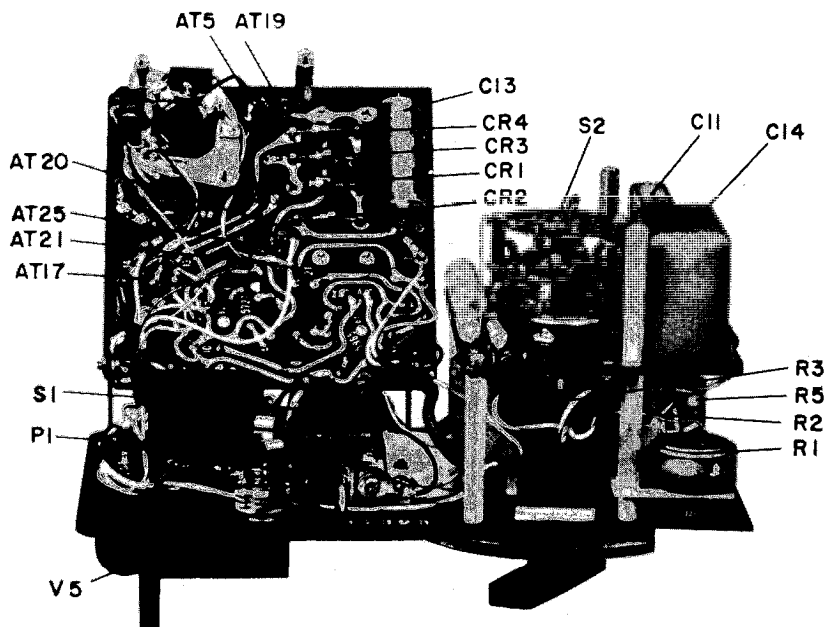

Figure 4-1. Side internal view of Type 1531 stroboscope with etched board swung open.
To remove the instrument from the case, open the case and place the instrument with the panel in a vertical position. Make certain to unplug the power connector before starting the next step. Remove the four screws from the side of the case opposite the panel and pull the instrument forward. For access to the parts located on the panel, remove the screw directly under the INPUT jack, and pivot the etched board containing the power transformer away from the panel (see Figure 4-1). Avoid damage to parts, do not allow the etched board to swing free.
If the stroboscope continually blows fuses (see Figures 4-1, 4-2, and 4-7):
If the indicator under the RPM dial is not illuminated, but the strobotron lamp fires, pilot lamp (P1, Figure 4-1) is defective. To replace, swing back the etched board (refer to paragraph 4.4.6) and unclip the lamp socket from its bracket. The lamp can now be easily replaced.
b. If the strobotron lamp flashes at the same rate, regardless of the RPM dial setting on all three speed ranges, potentiometer R3 (see Figure 4-1) is probably open-circuited.
If the stroboscope flashes, but the CAL indicator lamp remains out when the HIGH CAL and LOW CAL settings are adjusted (see Figures 4-1 and 4-2):
If the stroboscope cannot be calibrated by following instructions given in Section 2, OPERATING PROCEDURE, see Figures 4-1 and 4-2, and check the following:
If the 6:1 ratio between frequency ranges is not correct within 1%, see Figures 4-1 and 4-2, and proceed as follows: